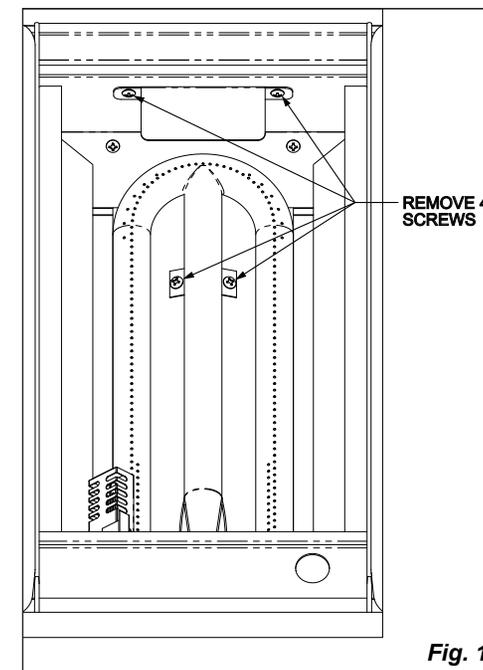

Fig. 1
2. Looking down inside the BBQ grill box, remove the 4 screws shown (Fig. 1). Slide out the U-burner using care to avoid damaging the ceramic igniter.